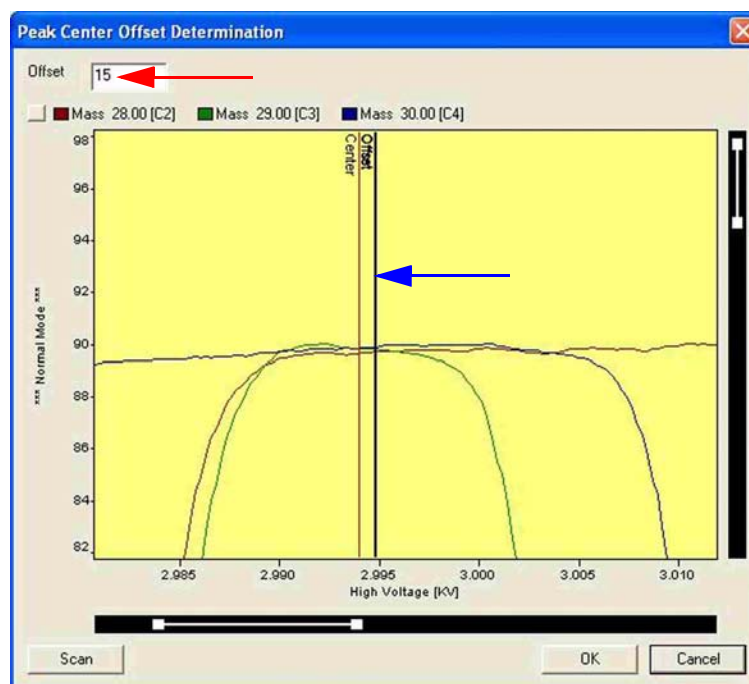

Figure 6-25. Adjusting the Desired Peak Center Offset Value
2. Then the desired Peak Center Offset can be adjusted by dragging the bar with the mouse. See Figure 6-25.